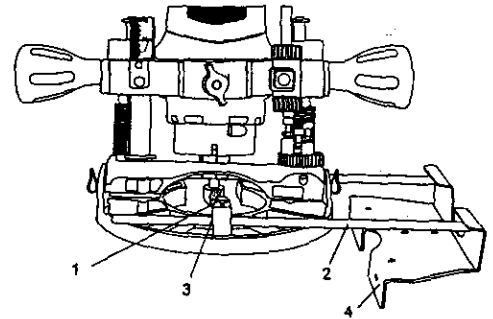

Fig. 22
1. Loosen all three cap screws (1) in the router base using a 7 mm wrench (see Fig. 22).